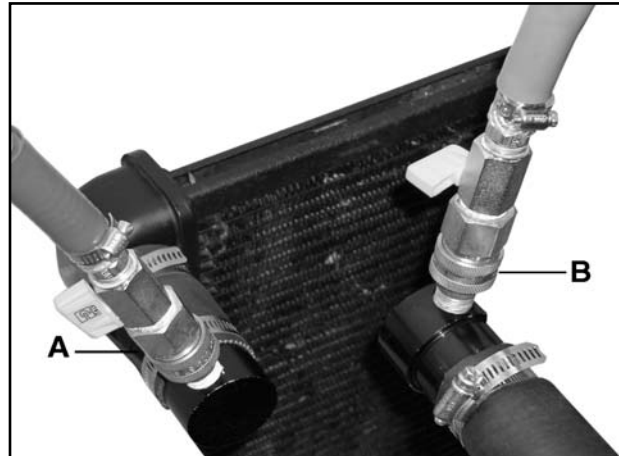

Figure 6: Recovery Hose and Adapter Attached to Radiator
11. Connect recovery hose (red) and adapter to radiator side of disconnected radiator or hose. See Figure 6.
12. Connect supply hose (blue) and adapter to engine side of disconnected radiator hose. See Figure 6.